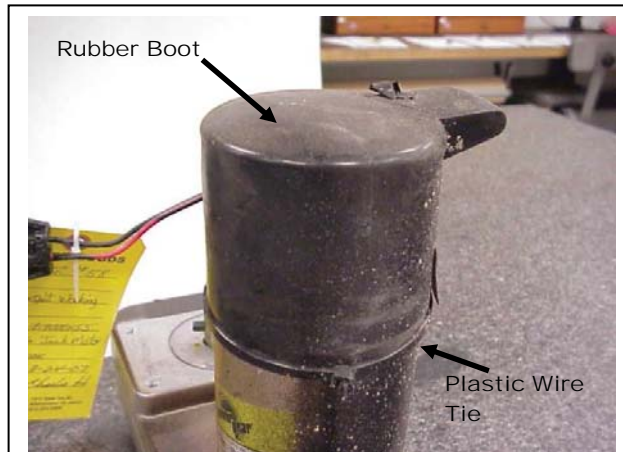

Figure 1
1. To inspect the motor brake, safely cut the old plastic wire tie and rubber boot. Remove these items from the motor and discard (see FIGURE 1).